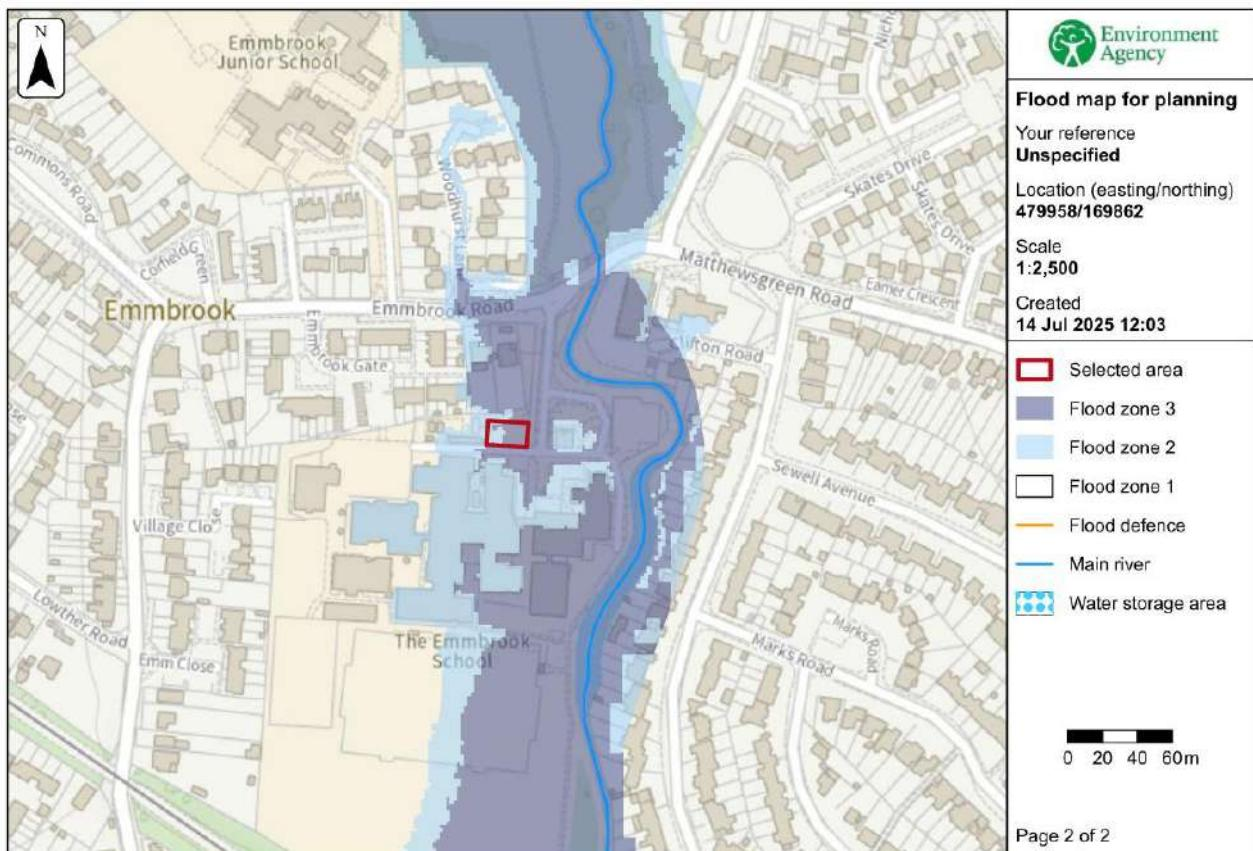

Figure 2: Extract of flood map for planning showing area of proposed works in red.
3.1.1 According to the Environment Agency Flood Risk Information, Emmbrook School is located both in flood zone 1, 2 and 3a. The proposed works, a new sixth form centre, is located within flood zone 2 and 3a, as shown in Figure 2 below.